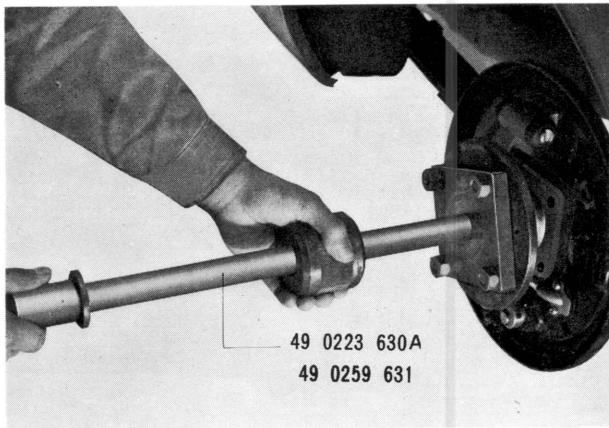

Fig. 9-1 Extracting rear axle shaft
4. Remove the backing plate securing nuts and extract the axle shaft by using a **Puller** (49 0259 631 and 49 0223 630A), as shown in Fig. 9-1.